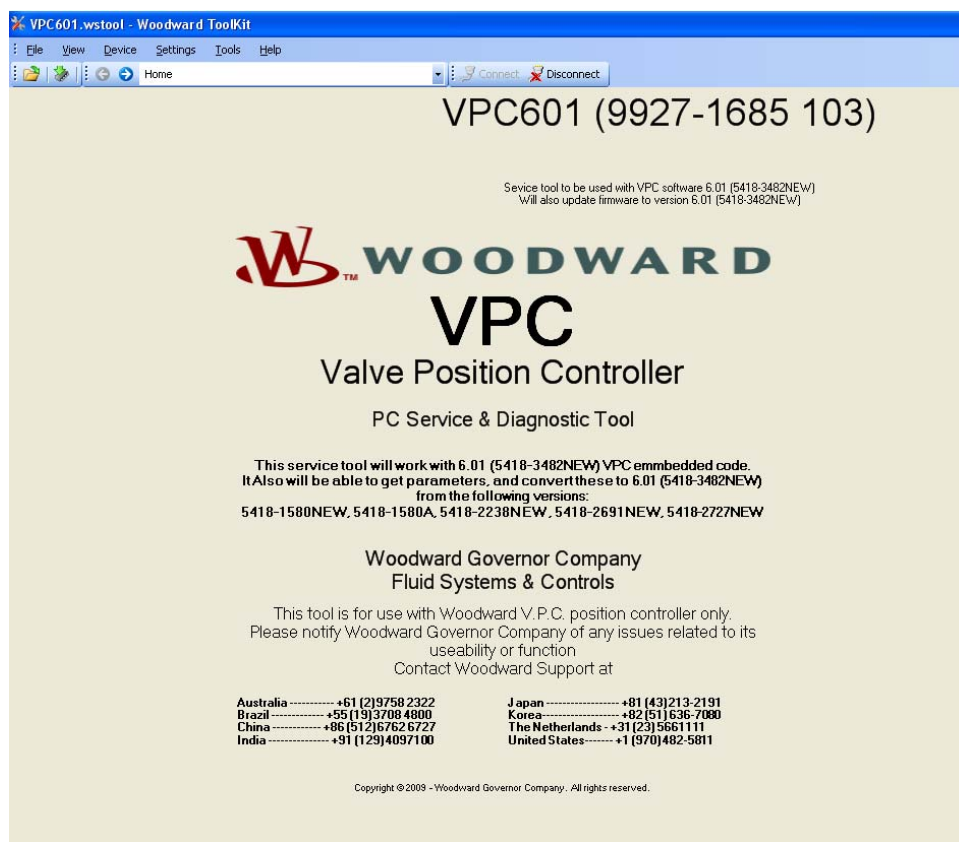

Figure 5-1. Serial Number & Application ID
3. Connect to the driver using the Service Tool. Click on the “Connect” button (Figure 5-1). A window will appear on the bottom of the screen. This will give you the serial number and application ID. The application ID is the software part number.